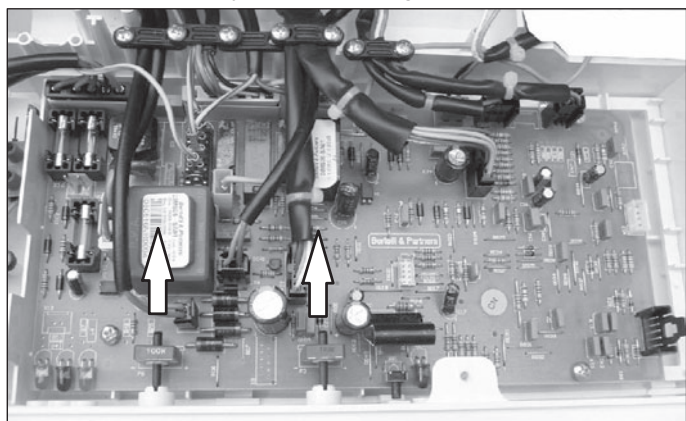

Figure 9.13
- 3 Remove the spindles of the c.h. and d.h.w. temperature adjustment knobs by delicately pulling them with pliers in the direction shown by the arrow in Figure 9.13.